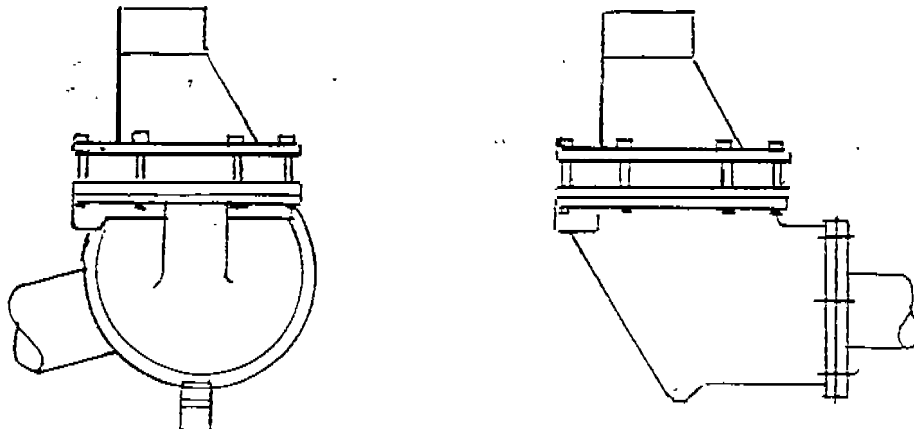

Figure 1. Assembled Intake System
Figure 1 shows the assembled intake system.
- (WEEKLY) 3. () All components appear to be the same as one of the diagrams shown in Figure 1.